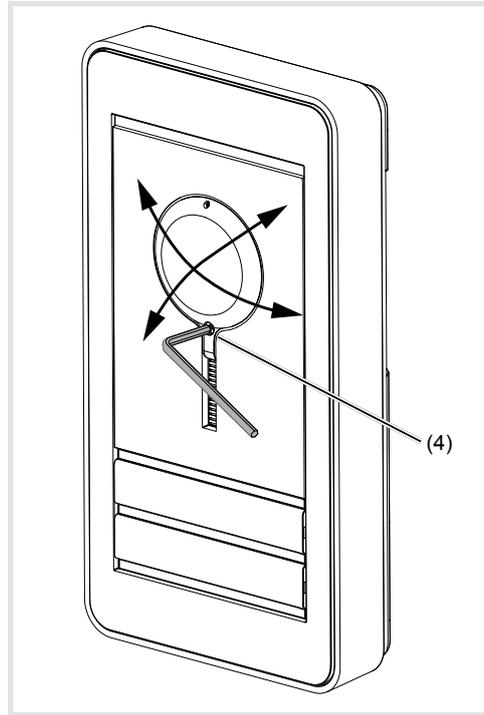

Figure 14: Aligning the camera
The camera can be aligned in order to adapt the camera picture to the local circumstances (figure 14, 15 and 16).
- Loosen the camera locating screw using the 1.5 mm Allen wrench provided (figure 14).